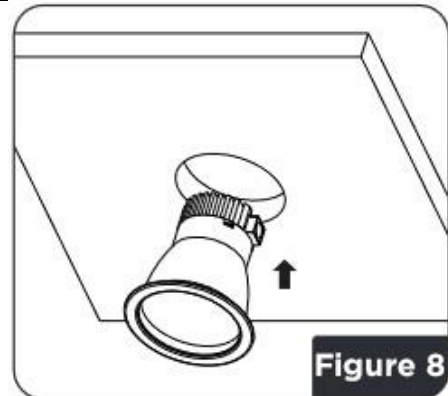

Figure 8
11. Push the reflector and light engine into the ceiling cavity. The retaining clips attached to the mounting frame will keep the luminaire snug against the ceiling (Figure 8).